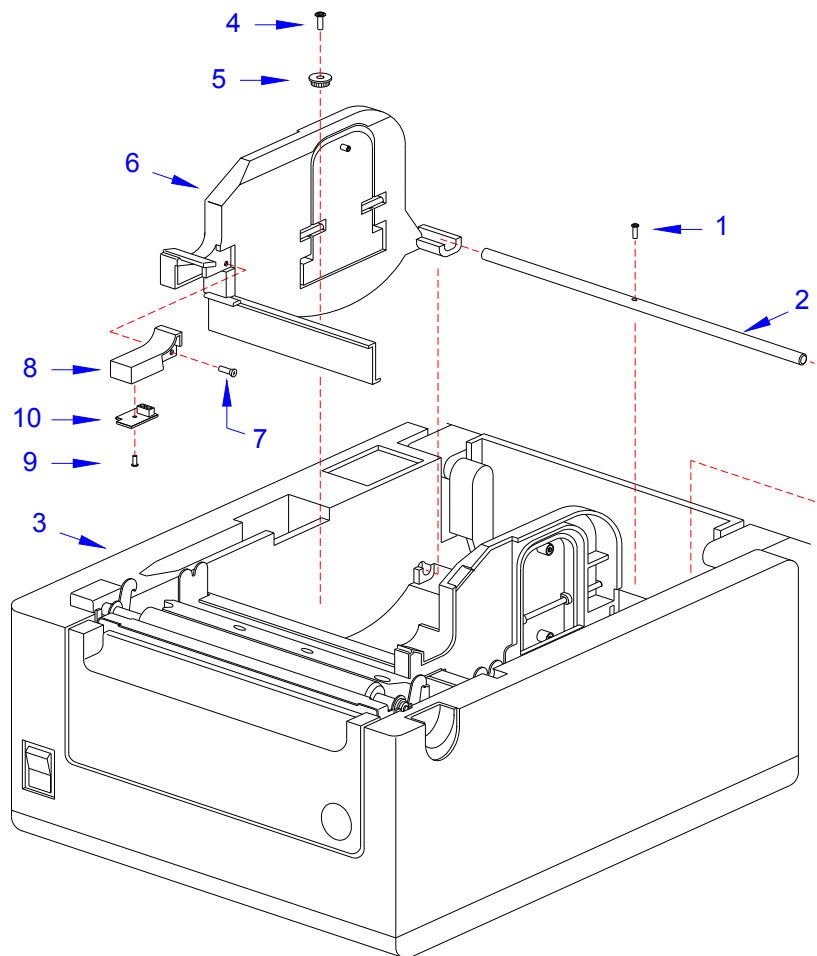

Figure 4-8a, Label Sensor Replacement
- 3 Remove one screw (1) (See Figure 4-8a) that secures the bar (2) to the printer (3).
- 4 Remove one screw (4) and gear (5) from the printer (3).
- 5 Lift away the left-side media holder (6) from the printer (3).
- 6 Remove one screw (7) that secures the sensor cover (8) to the left-side media holder (6).
- 7 Remove one screw (9) that secures the sensor (10) to the sensor cover (8).
- 11 Secure the cover (12) to the media holder (6) using three screws (11).
- 12 Insert the sensor (10) (See Figure 4-8a) into the underside of the sensor cover (8) and secure using a screw (9).
- 13 Attach the sensor cover (8) to the side of media holder (6) using a screw (7).
- 14 Place the media holder (6) into the printer (3) along with the gear (5) and secure using a screw (4).
- 15 Secure the bar (2) to the printer (3) using a screw (1).